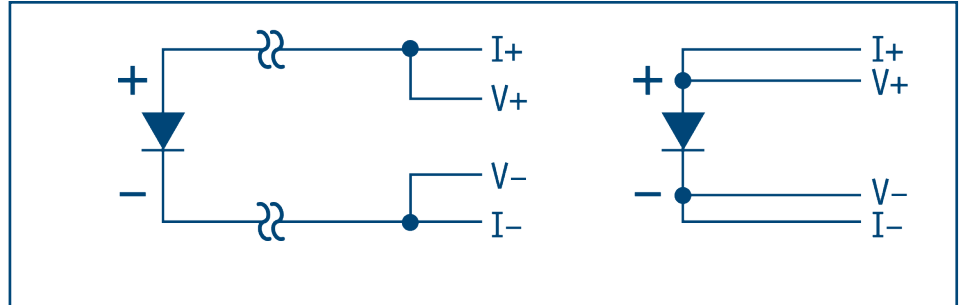

Figure 3 – 2-Lead versus 4-Lead Measurements
**2-lead measurement scheme**—The leads used to measure the voltage are also the current carrying leads. The resulting voltage measured at the instrument is the sum of the temperature sensor voltage and the voltage drop across the 2 leads (see Figure 3).
**4-lead measurement scheme**—The current is confined to one pair of current leads with the sensor voltage measured across the voltage leads (see Figure 3).
3. Strip the insulation from the connecting wires by scraping delicately with a razor blade, fine sand paper, or steel wool. Phosphor bronze or manganin wire, in sizes 32 or 36 AWG, is commonly used as the connecting lead wire. These wires have low thermal conductivity and high resistivity, which help minimize the heat flow through the leads. Typical wire insulation is polyvinyl formal (Formvar®) or polyimide (ML). Formvar® insulation has better mechanical properties such as abrasion resistance and flexibility. Polyimide insulation has better resistance to chemical solvents, heat, and radiation.
The leads used to measure the voltage are also the current carrying leads. The resulting voltage measured at the instrument is the sum of the temperature sensor voltage and the voltage drop within the two current leads (see Figure 3).
The current is confined to one pair of current leads with the sensor voltage measured across the voltage leads (see Figure 3).